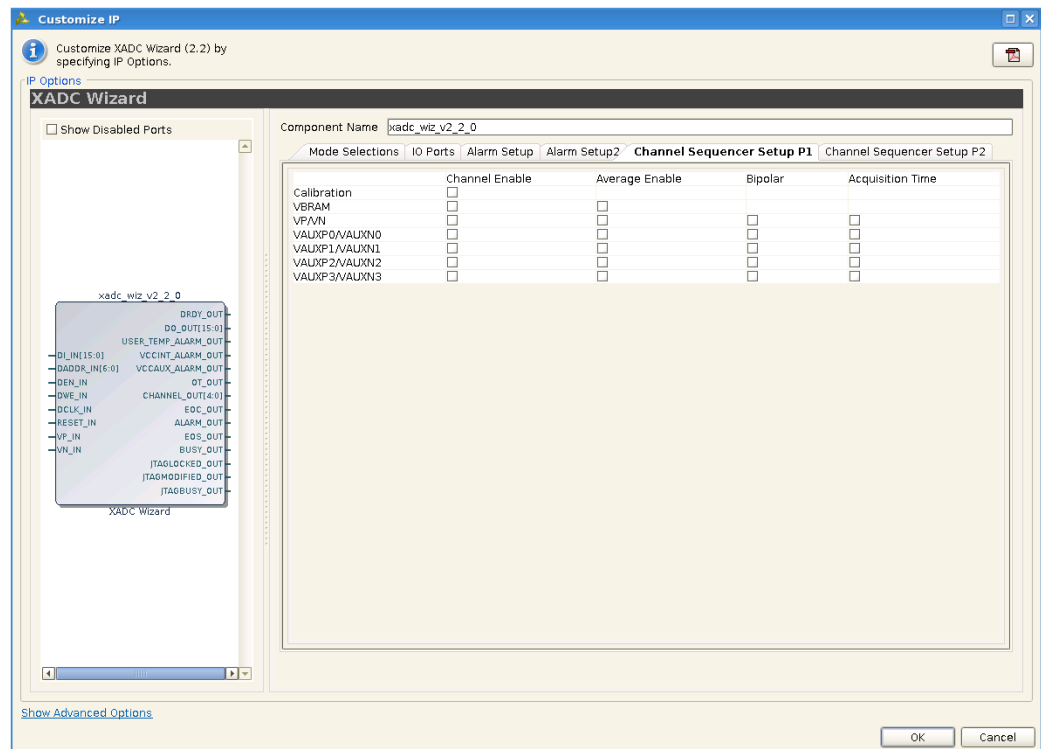
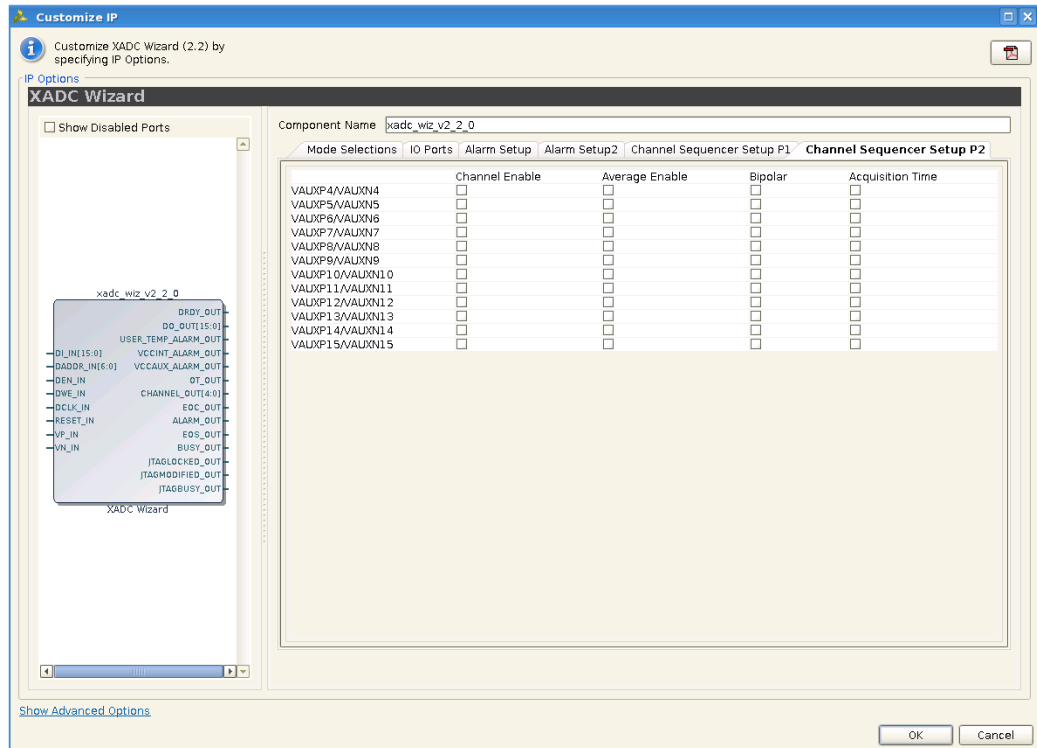

Figure 3-7: Channel Sequencer Setup P1 - Page 5
Figure 3-8: Channel Sequencer Setup P2 - Page 6
- **Channel Sequencer:** Choosing this mode, allows you to select any number of channels to monitor. The channels to be used for this mode can be selected on Page 5 (Figure 3-7, page 25) and Page 6 (Figure 3-8, page 26) of the Wizard.
Channel Sequencer Setup P1 (Figure 3-7) and Setup P2 (Figure 3-8) screens of the Wizard are used to configure the XADC sequence registers when the XADC is configured in Channel Sequencer, Simultaneous sampling or Independent ADC mode. All the possible channels that can be included in the sequence are listed in the table spread across screens 5 and 6 (Figure 3-7 and Figure 3-8) of the Wizard: